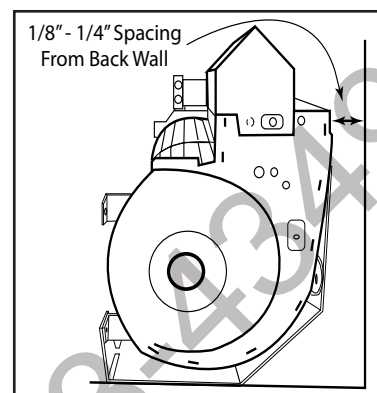

Fig. 3 Spacing from wall.
8. Pull the fan housing slightly away from the back metal wall (1/8" to 1/4") of the appliance. The magnetic feet will hold to the housing in place. Fig 3